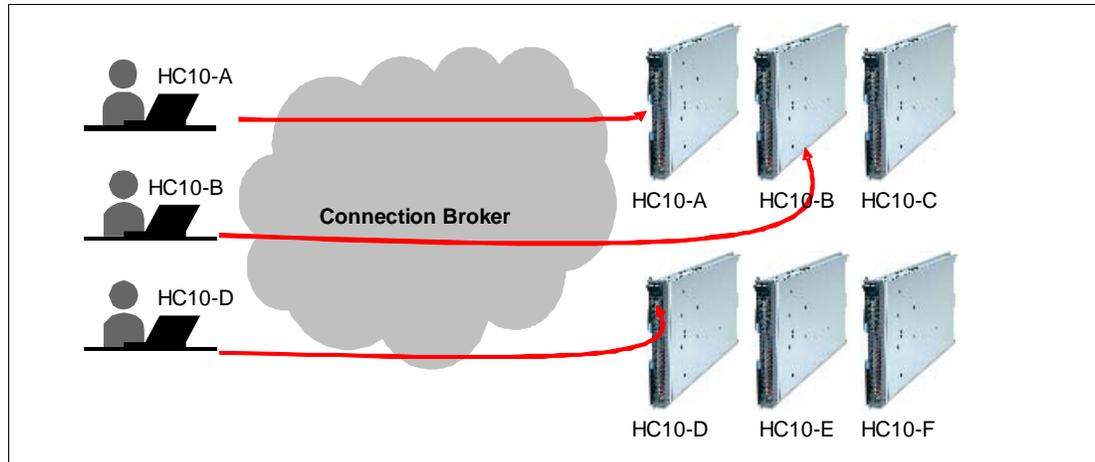

Figure 4-9 Fixed seating connection
*Fixed seating* is when each CP20 is assigned to a specific HC10 and this connection is the only connection that can be made. In a fixed seating environment, the same CP20 always connects to the same HC10. Figure 4-9 shows a diagram of fixed seating.
In Figure 4-9, when a user sits in front of a CP20 that is assigned to HC10-A, then that CP20 always connects to HC10-A. Logon security is handled by the operating system on the HC10.